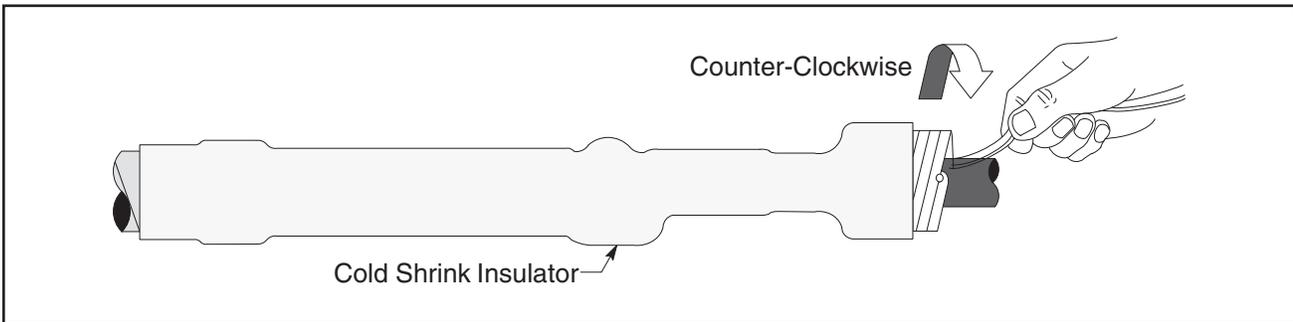

Figure 16
9.1 Center Cold Shrink over connected lugs and remove core by unwinding counter-clockwise. (Figure 16).